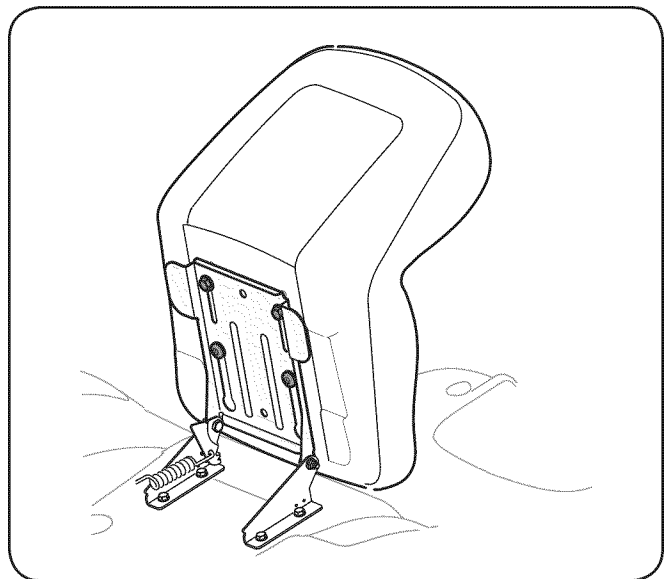
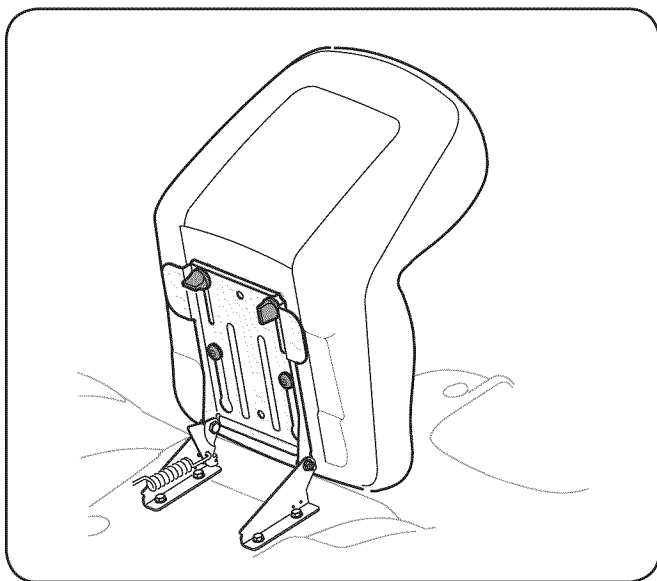
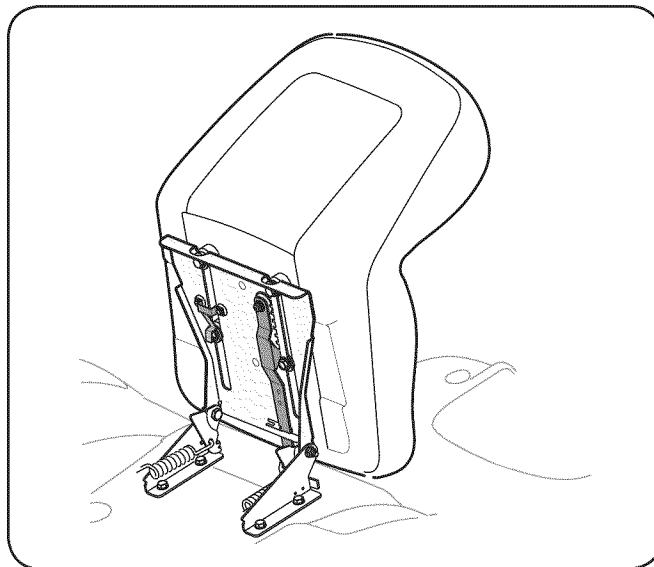

Figure 3-5
Figure 3-6
Figure 3-7
If the seat for your tractor was not attached at the factory, refer to Fig. 3-5, Fig. 3-6, and Fig. 3-7 to identify your tractor's seat style and follow the applicable instructions below to attach it.
1. Position the shoulder screws (found on the base of the seat) inside the slot openings in the seat pivot bracket. Fig. 3-5.
3. Select desired position for the seat, and secure with the two hex screws removed earlier. See Fig. 3-5.
- Position the shoulder screws (found on the base of the seat) inside the slot openings in the seat pivot bracket. See Fig. 3-6.
- Select desired position for the seat, and secure with the two knobs removed earlier. See Fig. 3-6.
NOTE: If your seat was shipped mounted backwards on the seat pivot bracket, pull out the tab found on the seat stop and hold it open while sliding the seat off the seat pivot bracket. See Fig. 3-6.
- Slide seat in until front seat spacer engages the seat stop. See Fig. 3-7.